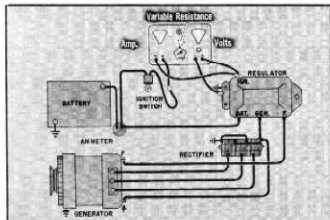

Fig. 49
1. To test the closing voltage of the relay, connect voltmeter, ammeter and variable resistance (fig. 49) Remove regulator cover and with ignition switch on, gradually cut out resistance and read voltage at the instant you see the relay close. This reading should be 3.6 to 4.6 volts.